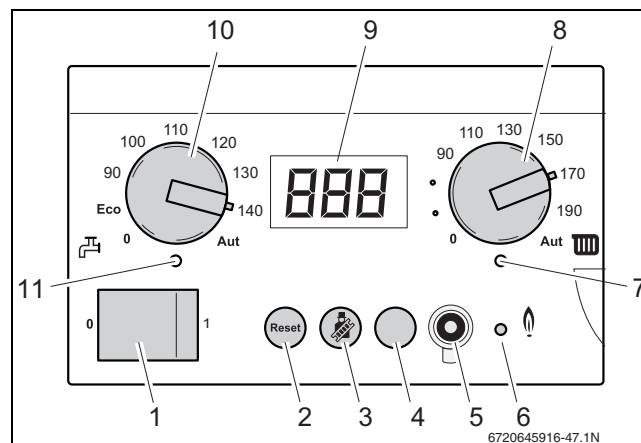

Fig. 66 BC10 basic controller
- Switch ON the appliance by pressing the main switch of the BC10 basic controller (→ fig. 66, [1]).
- Press and hold the "Chimney sweep" button (→ fig. 66, [3]) (approx. 2 seconds), until the dot in the right-hand bottom corner of the display (→ fig. 66, [9]) appears (→ table 12, page 29).
- After the LED "Burner operation" (→ fig. 66, [6]) has lit up wait for 1 minute until the boiler is burning at full load.
- Press the "Service" button (→ fig. 66, [4]) repeatedly until the temperature reading is shown in the display.
- Press the "Chimney sweep" button (→ fig. 66, [3]) to clear the reading (→ table 12, page 29).
- Press the "Chimney sweep"  button (→ fig. 66, [3]) to clear the reading (→ table 12, page 29).
- Switch OFF the appliance by pressing the main switch of the BC10 basic controller (→ fig. 66, [1]).